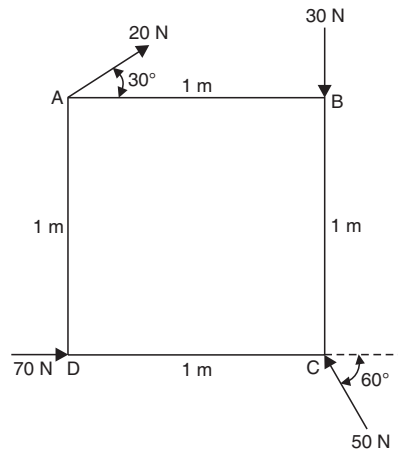

Fig. 3.60
14. Four coplanar forces equal to 20 N, 30 N, 50 N and 70 N are acting on a square body of each side equal to 1 m as shown in Fig. 3.60. Determine the magnitude, direction and position of the force which will keep the body in equilibrium. [Ans.  $R_e = 65.3$  N acting anti-clockwise from point  $C$  at an angle  $20^\circ 30'$  with the horizontal and at a distance of 0.42 m]